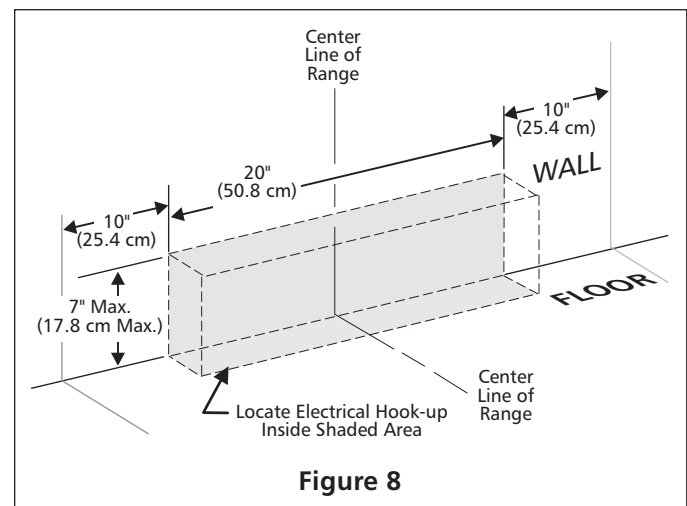

Figure 8
3. Locate junction box as shown in Figure 8.